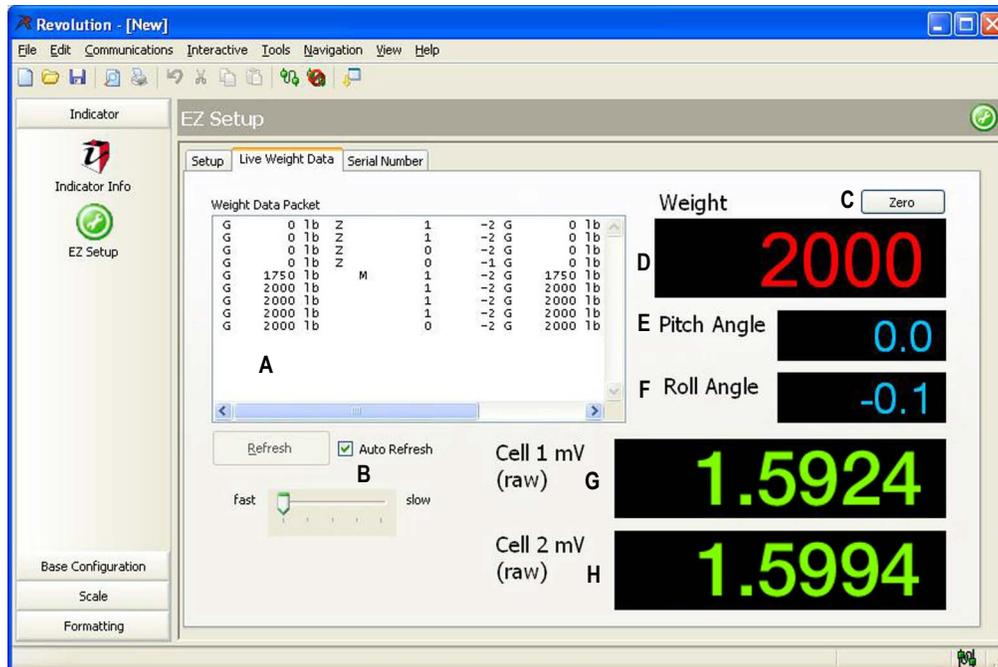

Figure 4-7. Revolution Live Weight Data screen.
1. Select the *Live Weight Data* tab (Figure 4-7).
**NOTE:** *Weight data packet screen shows output format of CLS-M3. Other displays include weight, pitch angle, roll angle, cell 1 & 2mV. (Figure 4-7). This is the information that will be sent to the customer supplied hand-held device when attached through Bluetooth.*